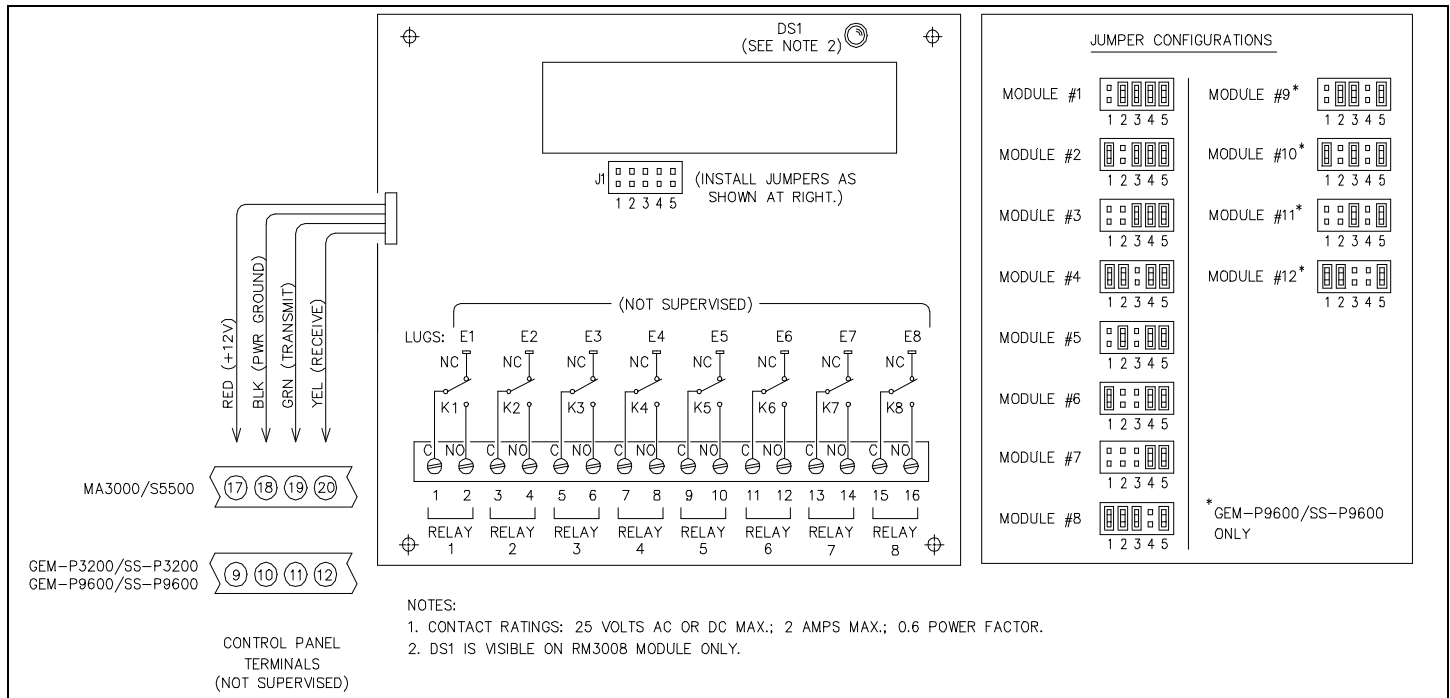

Fig. 2. RB3008/RM3008 Wiring Diagram.
in the Wiring Diagram (Fig. 2). The maximum distance for a single RM3008 wiring run is 1000 feet using # 22AWG wire. The maximum distance for up to 5 RM3008 modules connected to a single wiring run is 300 feet using # 22AWG wire.
2. Connect the remote devices as required to the individual relays. Refer to Table 2 and Fig. 2. Note that, for each relay, two terminals provide normally-open contacts, whereas the common terminal and a related lug provide normally-closed contacts.